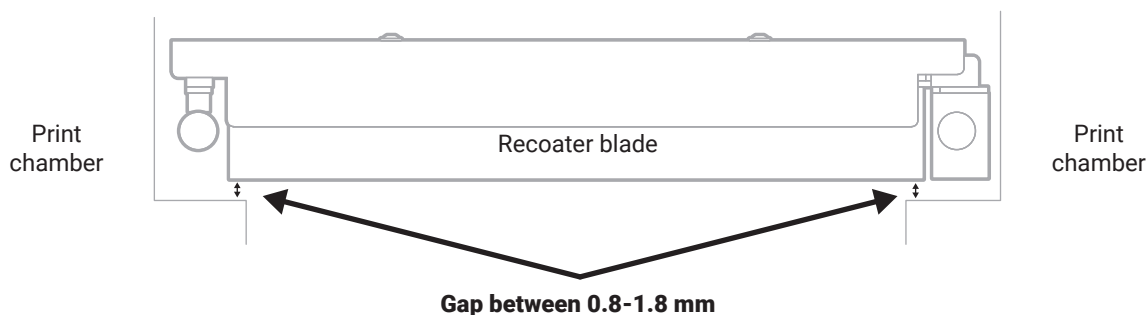

Fig. 6 Correct distance between the Recoater blade and the print chamber.
17. Assess the gap between the Recoater blade and the print chamber. The correct value should be between 0.8 and 1.8 mm (fig. 6).